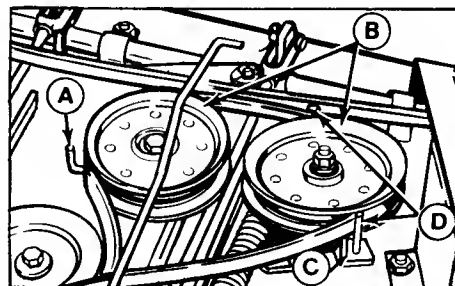

Figure 28. Mower Belt Stops - 42" Mower
2. Loosen the left belt stop (D, figure 28) enough to slip the belt off the pulley. Remove the right belt stop (A).